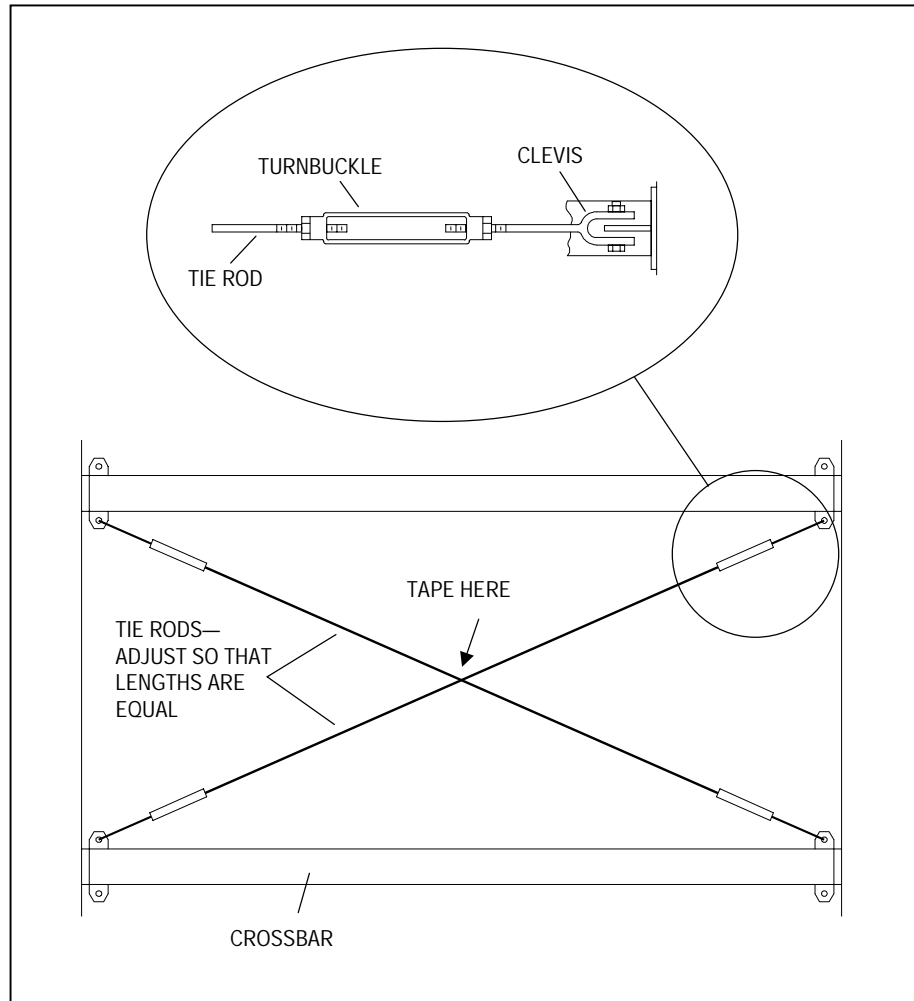

Figure 18. TIE ROD ADJUSTMENT
2. Starting at the top pair of tie rods, remove slack from the rods using the turnbuckles, but do not tension (see Figure 18).